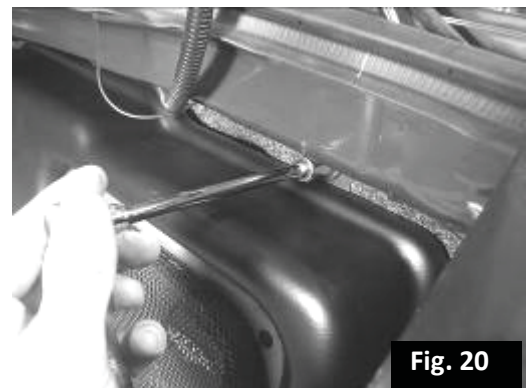

Fig. 20
38. Slowly rotate the subwoofer into place. Line up the top bracket with the hole near the tail light and reinstall and tighten the bolt. Fig. 20